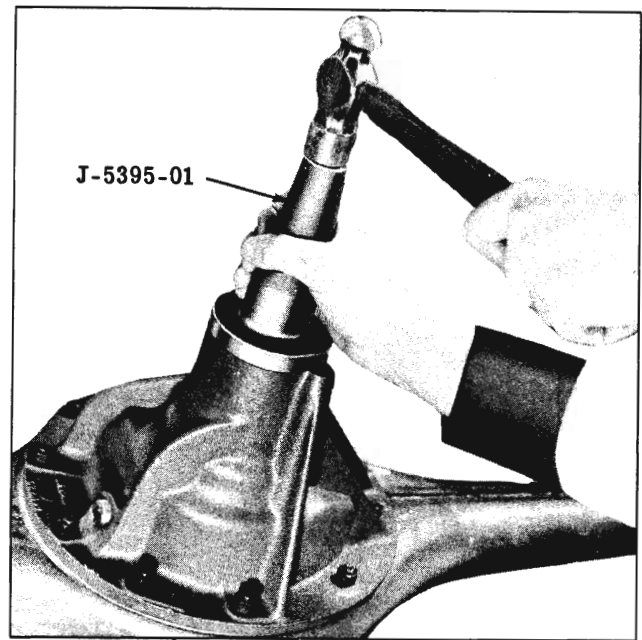

Fig. 6-10 Installing Pinion Oil Seal
8. Coat outside diameter of new seal sparingly with sealer, Part No. 557622 and install seal using driver J-5395-01 to properly locate seal in carrier. (Fig. 6-10)